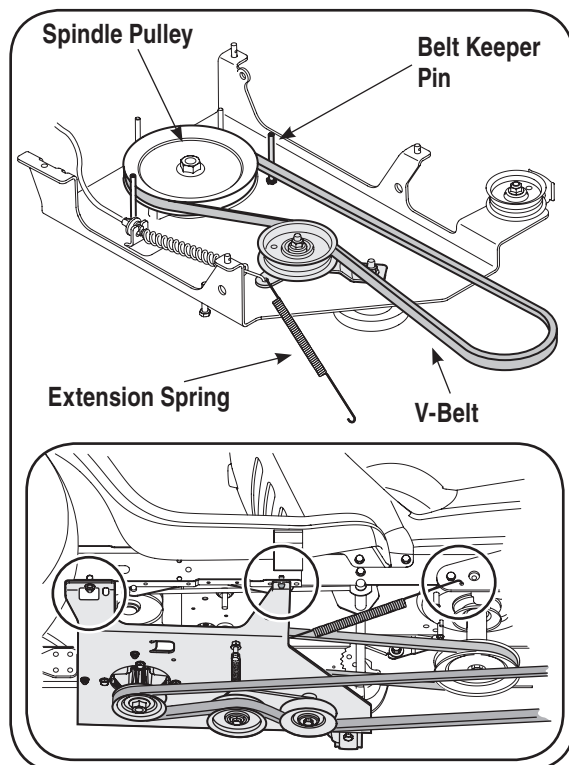

Figure 11
3. Locate v-belt part No. 754-0498 and the extension spring (Part No. 732-04237, which is .50" wide x 12" long) packaged with the loose parts in this carton. See Figure 11 for reference.
Route the belt around the spindle pulley, inside of the belt keepers and to the inside of the idler pulley. The spring will connect to the Idler bracket but you may install this once the undercarriage is mounted. Otherwise it could fall off or get in the way in the following steps. If you wish to connect this later, retain the spring for later installation. See the Figure 11.
Lift the undercarriage assembly up, inserting the weld pins on the assembly up through the aligning holes found along the tractor's frame rails. Fasten with hairpin clips and flat washers removed earlier. See inset image in Figure 11.
3. Connect the extension spring found in your units loose parts that was mentioned earlier. This spring connects to the idler bracket on the undercarriage assembly and the hole on the rear right-hand snow thrower mounting bracket. See Figure 11.
4. Attach the lower auger drive belt by routing it around and through the pulley system as seen in Figure 11.